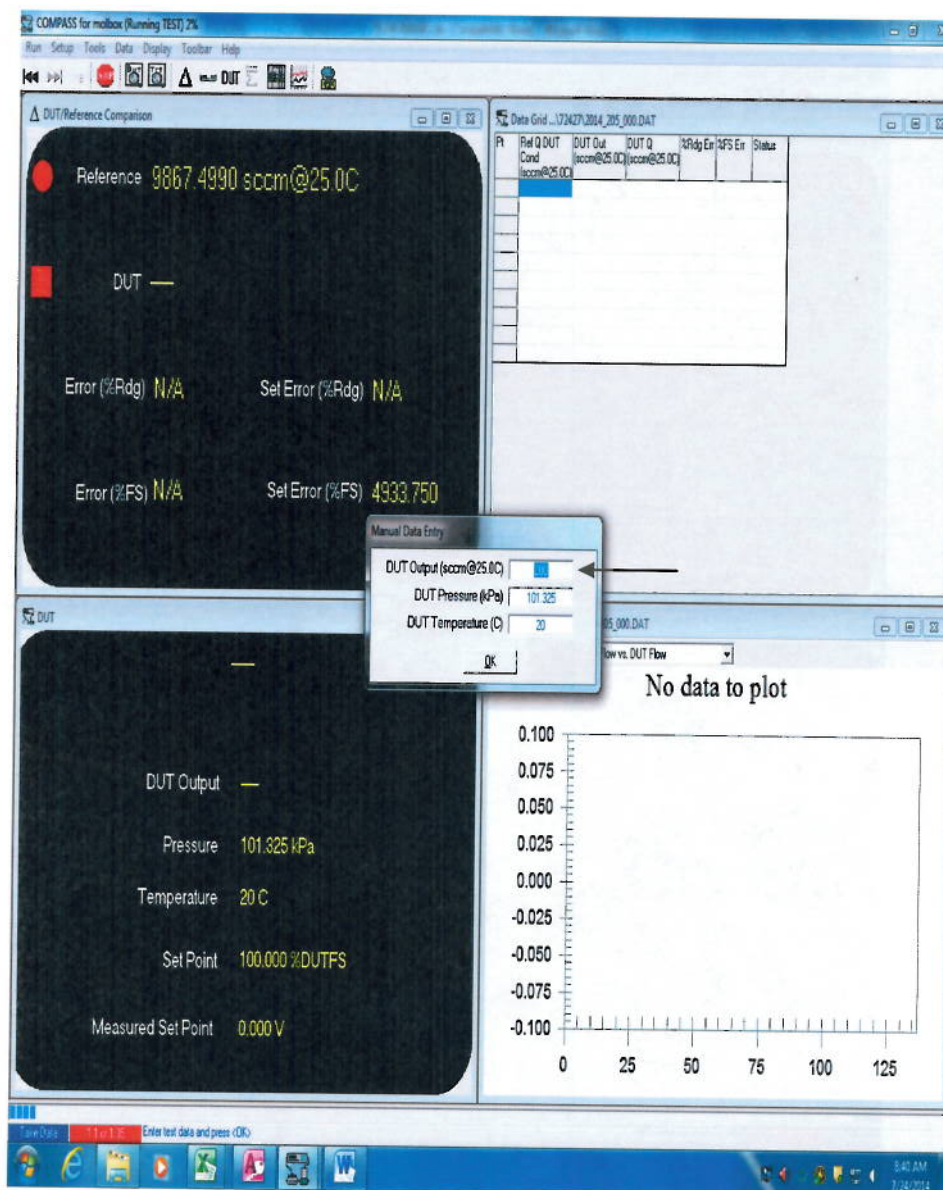

Figure 12
- 12.3.11 All Compass software test profiles are setup to begin each test at fullscale or at 100%. Enter the flow rate indicated on the candidate's display into the "DUT Output" text box. See Figure 12.